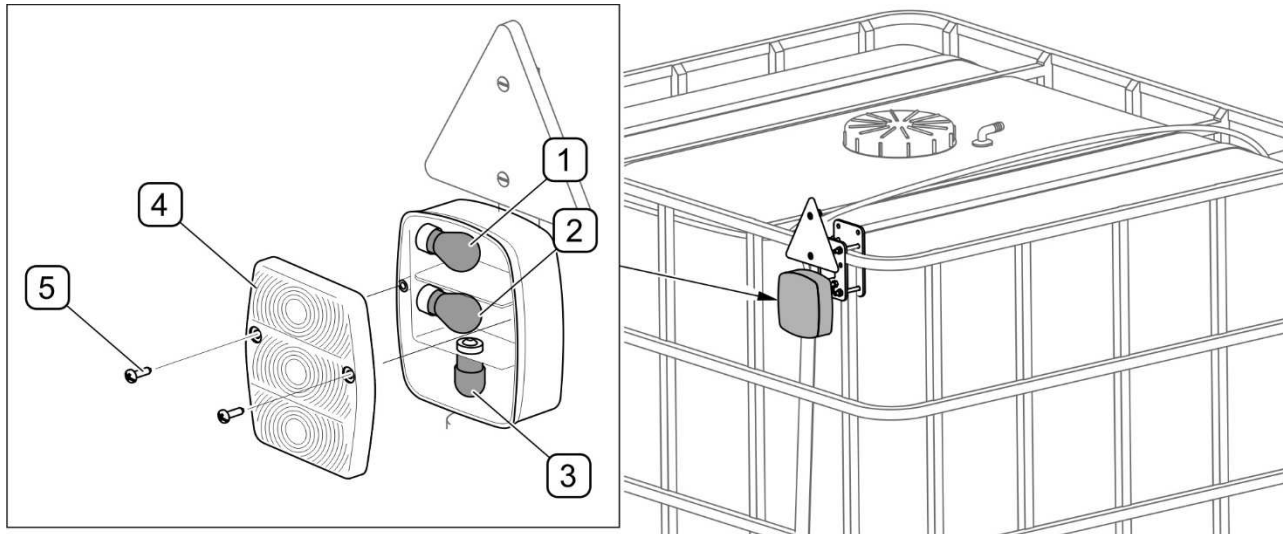

FIGURE 5.2 Replacement of bulbs
(1) - indicator light bulb; (2) - brake light bulb; (3) - parking lights bulb; (4) - lamp assembly lens; (5) - screws
Electrical system maintenance involves periodical checking the operation of the lighting system (option) and water pump power supply. After connecting to 7-pole socket on the tractor (carrying vehicle), check operation of the lights. In case of bulb burnout in lamp (FIGURE 5.2) , unscrew screws (5) that secure lamp lens (4) and replace appropriate bulb. List of bulbs is shown in TABLE 5.1